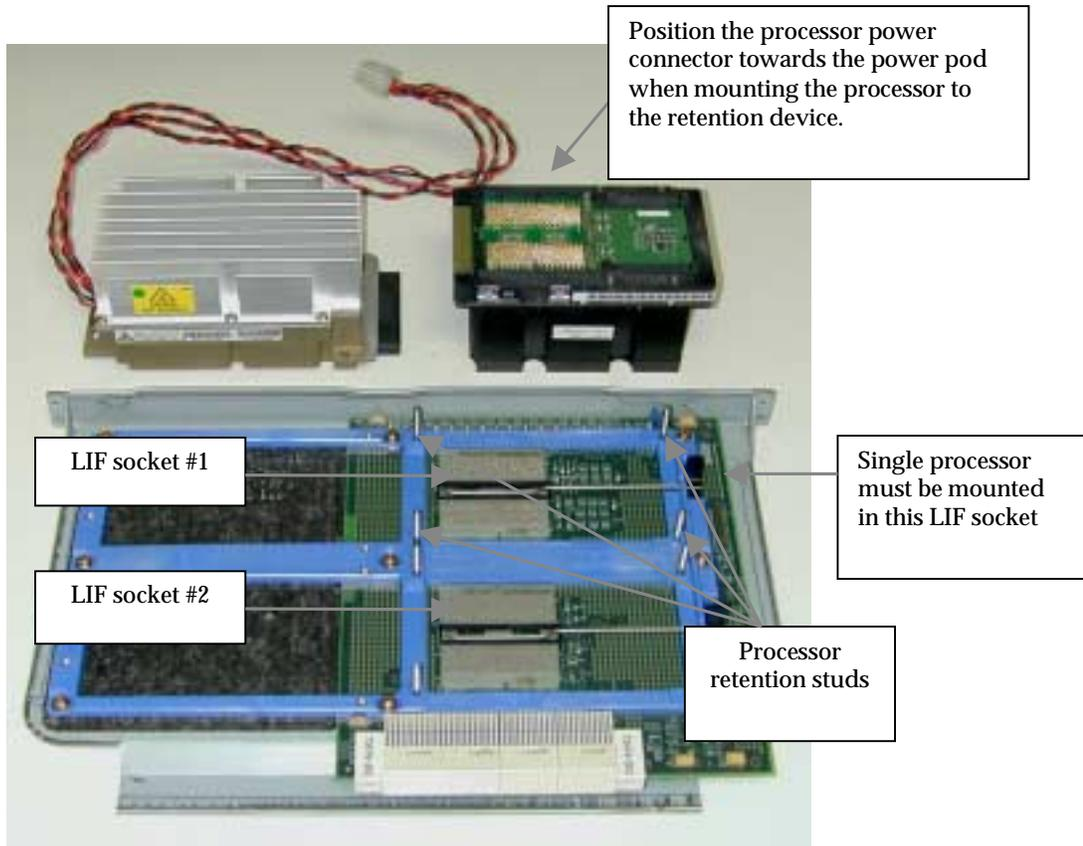

Figure 21 Replacing the processor
1. Position the processor over the four (4) processor retention studs.
2. Gently lower into place onto the LIF socket #1 (refer to Figure 21).
7. Locate the four (4) brass, Castle-head nuts and fasten the nuts to the four (4) threaded retention studs. Utilize the cross torque pattern referenced in Figure 21.